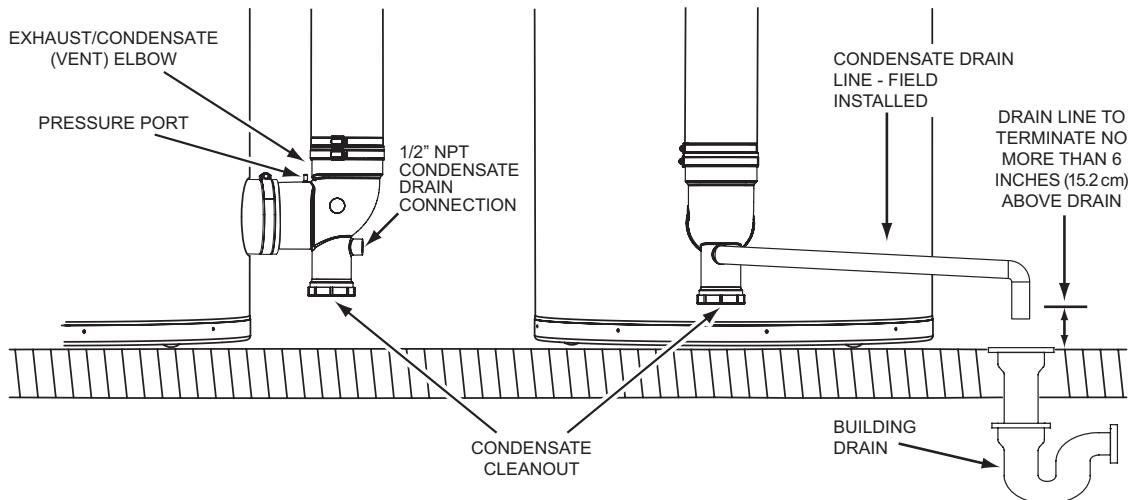

Figure 36. Condensate Drain Installation
- Install a 1/2 inch PVC condensate drain line between condensate drain connection on the Exhaust/Condensate Elbow and a suitable building drain. The condensate line must slope to an open drain, see Figure 36.
- Terminate the condensate drain piping with an elbow above the drain. Ensure that any discharge will exit the condensate drain line no more than 6 inches (15.2 cm) above a suitable building drain, or external to the building, see Figure 36.
- Ensure the condensate drain line is not elevated above the condensate drain connection on the Exhaust/Condensate Elbow, see Figure 36.